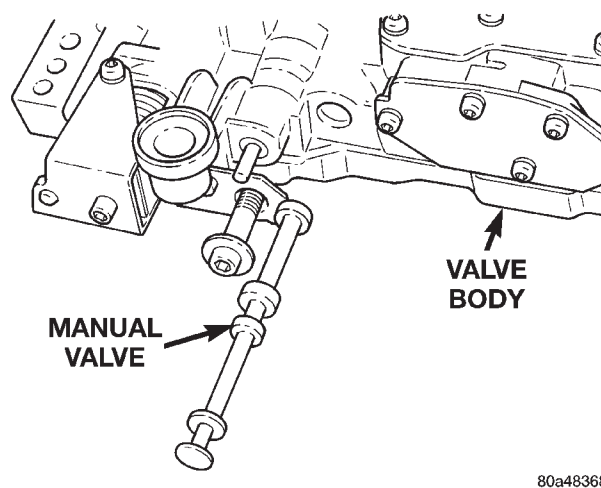

Fig. 43 Manual Valve
(7) Remove manual valve from valve body (Fig. 43).